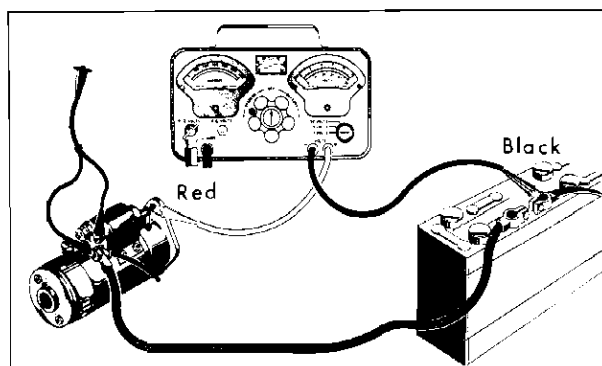

Fig. 11-5 Ground Circuit Test
2. Connect test leads as shown. Fig. 11-5.